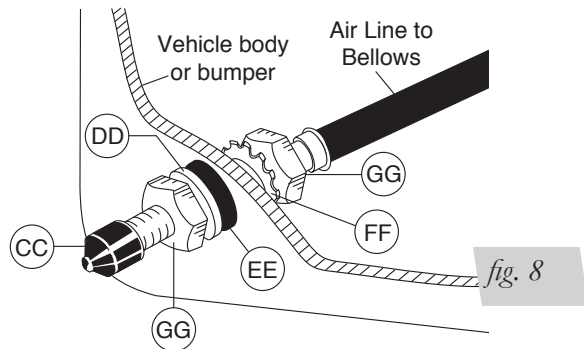

fig. 8
3. Place a  $\frac{5}{16}$ " nut (GG) and a star washer (FF) on the air valve. Leave enough of the inflation valve in front of the nut to extend through the hole and to have room for the rubber washer (EE), flat washer (DD), and  $\frac{5}{16}$ " nut (GG) and cap (CC). There should be enough valve exposed after installation - approximately  $\frac{1}{2}$ " - to easily apply a pressure gauge or an air chuck (Figure 8).
4. Push the inflation valve through the hole and use the rubber washer (EE), flat washer (DD), and another  $\frac{5}{16}$ " nut (GG) to secure it in place. Tighten the nuts to secure the assembly in place (Figure 8).